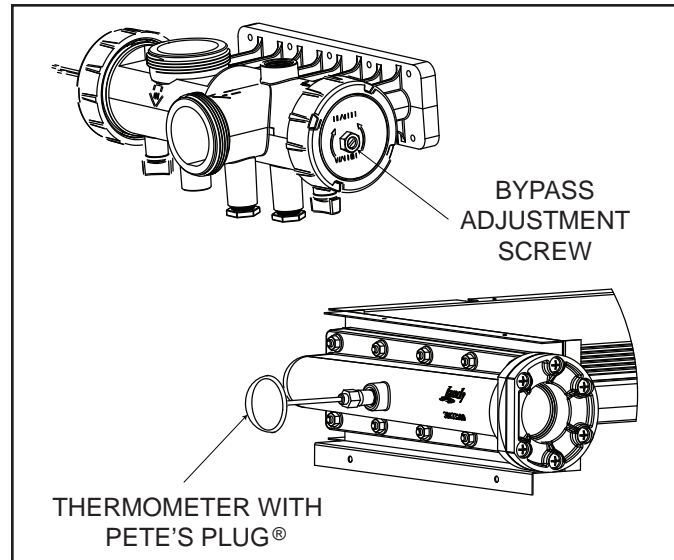

Figure 34. Temperature Rise Measurement
Before checking the temperature rise, make sure that the pool filter is clean and that gas supply and manifold pressures are correct. If necessary, clean all components of the filter system. Temperature rise is measured in the return header of the LXi. To measure the temperature rise, turn off the filter pump and remove the plastic plug protruding through the cabinet on the return header side of the heater, see Figure 34. With the plug removed, install the special thread adapter and Pete's Plug® fitting and insert a pocket thermometer. A temperature rise measurement kit is available through your Jandy Pro Series distributor. See *Section 11* of this manual for the correct kit number.
6. Locate the bypass adjustment screw on the right-hand side of the header, see Figure 34. Loosen the nut so that the screw can be adjusted. A slight water leak past the nut may be expected. Turn the screw counterclockwise to decrease the temperature rise, and clockwise to increase the temperature rise as needed to achieve the ranges in Table 8. After the adjustment, tighten the nut so that no leaks occur.